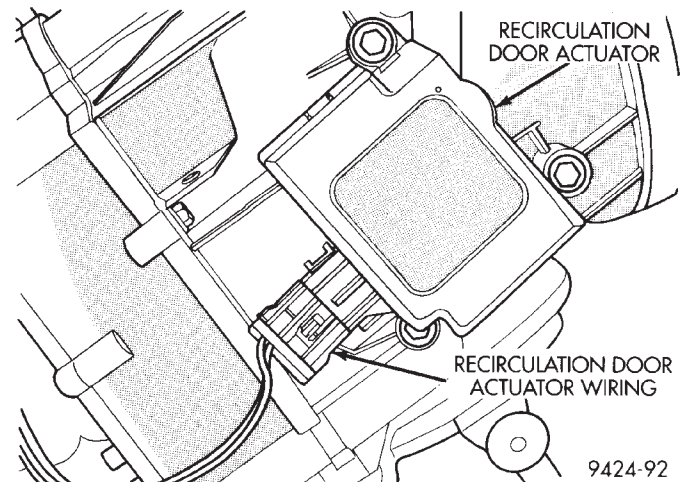
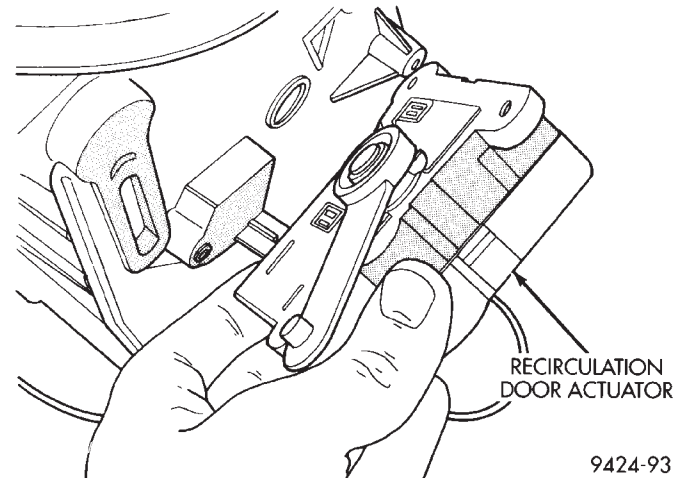

Fig. 56 Recirculation Door Actuator Wiring
Fig. 57 Recirculation Door Actuator
- (1) Place heater-A/C unit assembly on workbench.
- (2) Pull back on retaining tabs and remove heater core from housing.
- (3) Remove recirculation door actuator wiring (Fig. 56). Remove actuator from recirculation housing (Fig. 57).